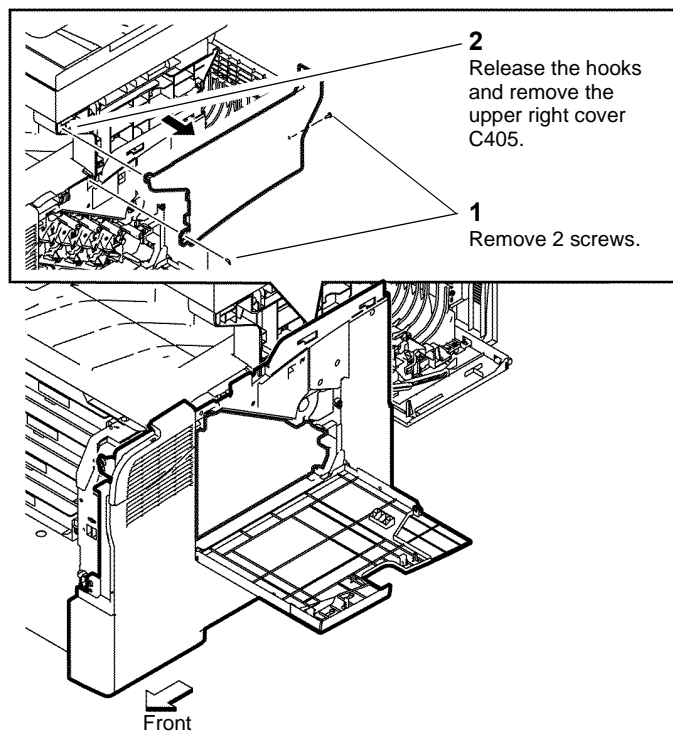

Figure 1 Upper right cover C405
5. Remove the upper right cover, Figure 1.